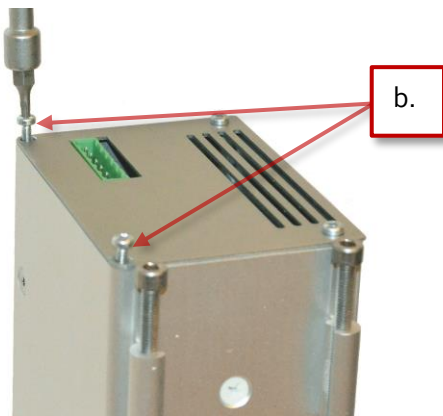

Figure 59 Remove screws at the back
- b. Remove the two screws at the back of the MiniSEPT that are placed diagonally to the just removed front screws, see Figure 59.